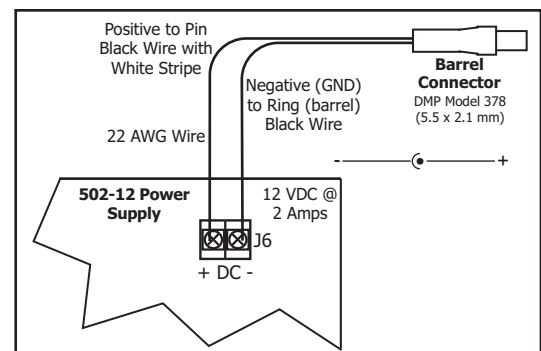

Figure 4: Power Supply Connection
5. Plug the Model 378 barrel connector into the J2 barrel jack at the side of the 1117 cover. See Figure 4.
8. Plug the barrel connector into the J2 barrel jack at the side of the 1117 cover. See Figure 4.